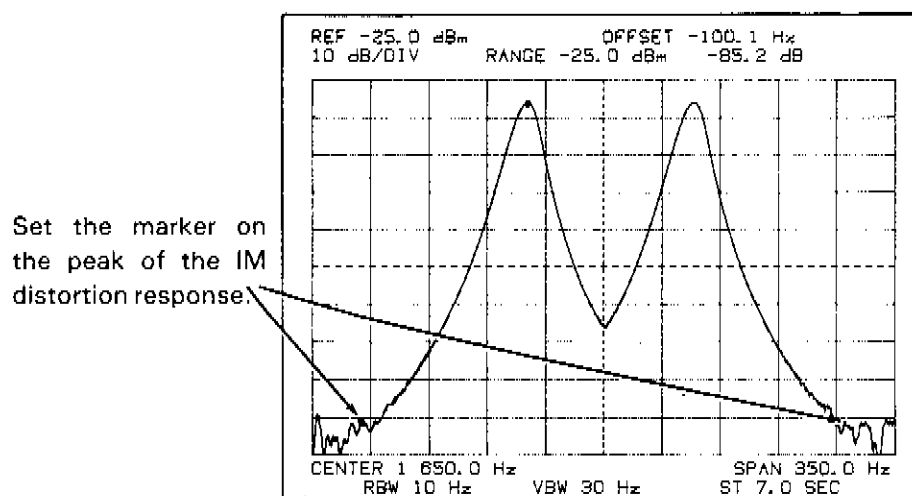

Figure 4-24. IM Distortion Response.
- h. Watching the offset frequency in the upper right-hand corner of the 3585A display, move the marker until the frequency reads $-100 \text{ Hz} \pm 1 \text{ Hz}$ (see Figure 4-24).